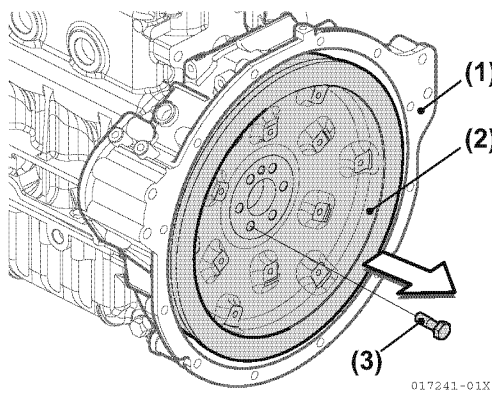

Figure 5-43
- 35. Loosen the flywheel bolts and remove the flywheel (Figure 5-43).